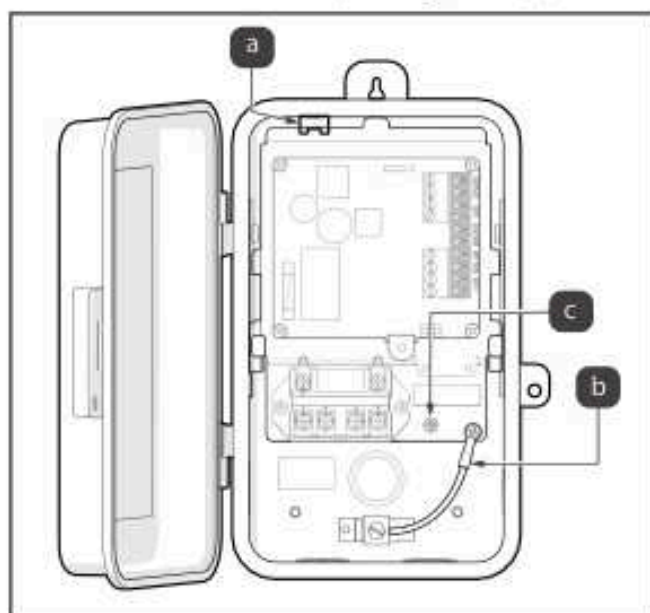

Figure 11. Mounting and Grounding TCX Chassis
5. Push AquaLink TCX chassis until it locks into place under the mounting tab see Figure 11 (a)
6. Connect the ground wire to the green screw located on the AquaLink TCX mechanism see Figure 11 (b).
8. If there is no spring clip, secure TCX chassis with retention screw, see Figure 11 (c).